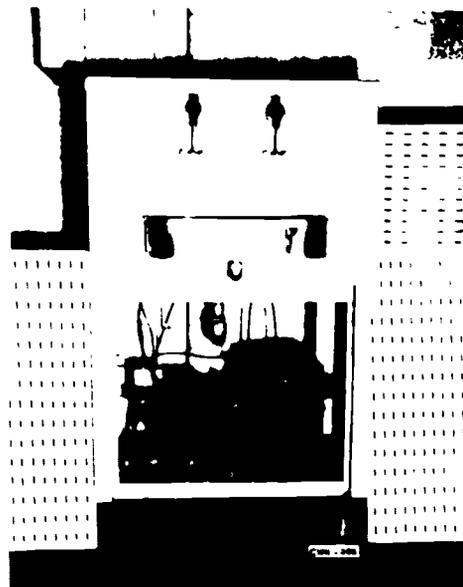

Figure 7. Large Self-Contained Water Cooler
Large self-contained units as shown in figure 7 may be equipped with two or more glass fillers and bubblers. These units are used in hospitals, mess halls, and cafeterias. They may have a capacity of as much as 25 gallons of cooled water per hour.
- Condensing unit. Self-contained units usually use a small low-starting torque compressor and an air-cooled condenser, as in figure 7. The condensing unit is usually mounted on the bottom part of the water cooler.